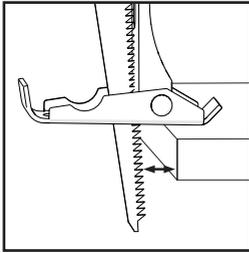

Fig. 9
- Ensure that the workpiece contact plate is firmly in contact with the workpiece but that the blade is not. **(Fig. 9)**.